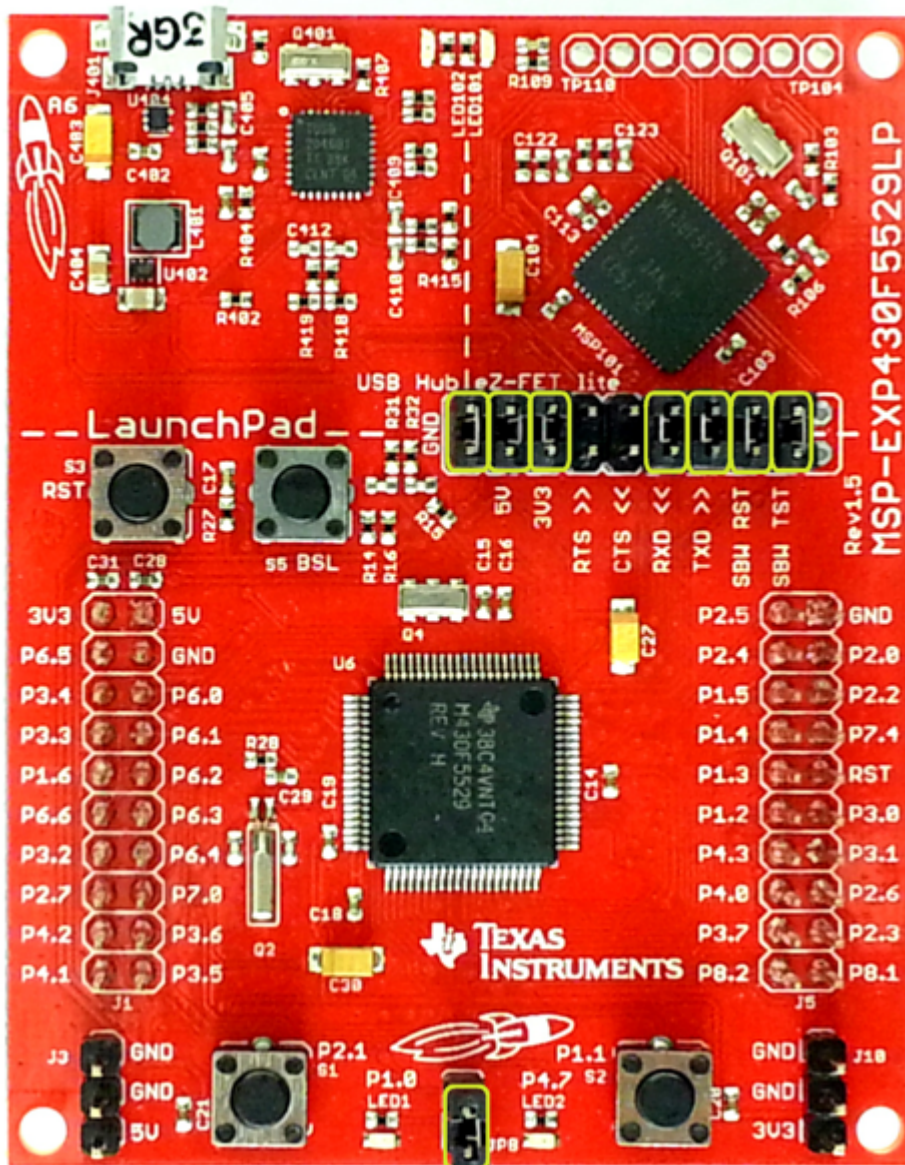

Figure 9. Jumpers on the MSP430F5529 Launchpad
- The jumpers on the MSP430F5529 Launchpad should be connected as shown in Figure 9.